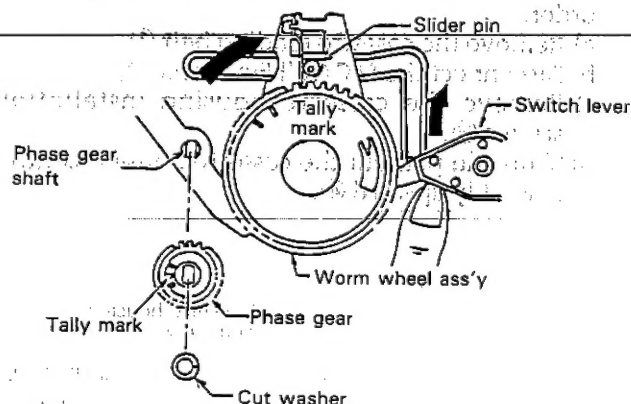
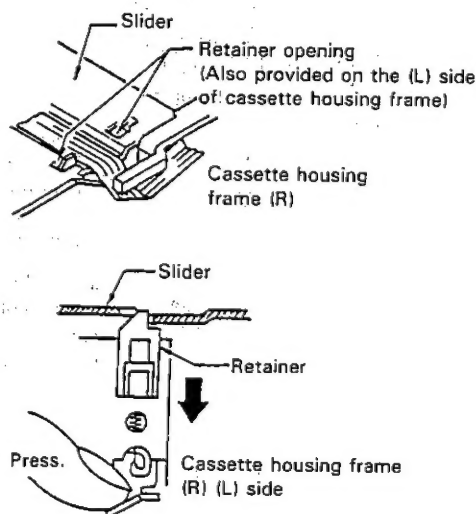

Figure 1-7.
Figure 1-8.
5. Place the slider pin just above the worm wheel (Figure 1-7). (The retainer of the slider is locked at two positions when. So unlock it as in the Figure 1-8.)
6. Pull out the worm wheel assembly toward you pressing the switch lever upward. (Figure 1-7)